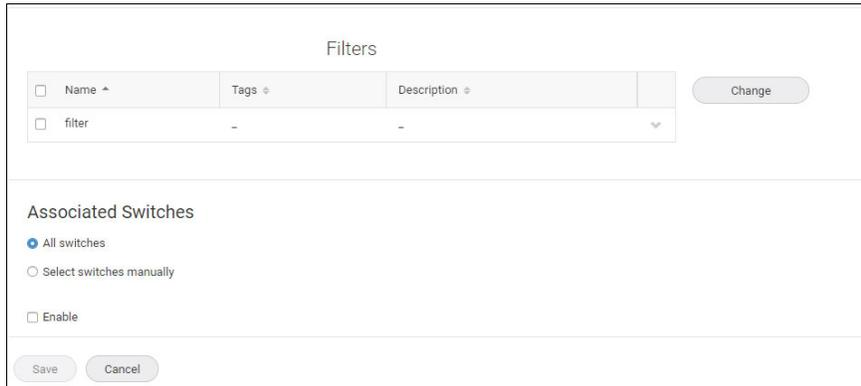

Figure 5-158 Forwarding filter
4. Click **Add** in the Filters table to add a filter. You can add a predefined filter, or you can create a filter (Figure 5-158).